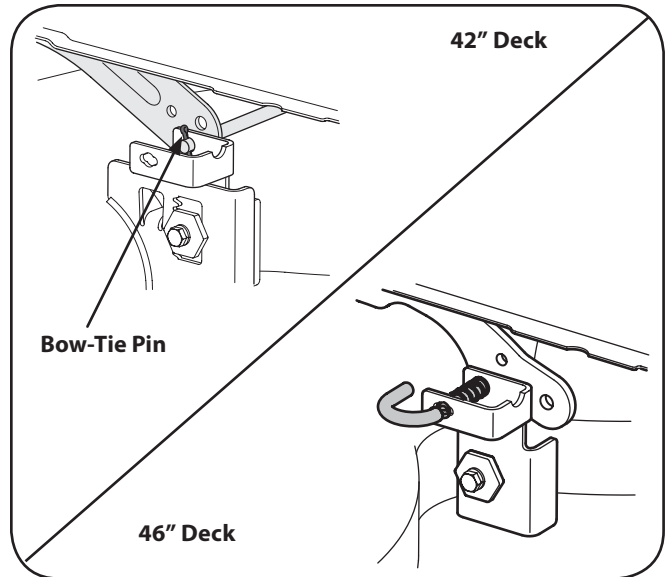

Figure 7-2
5. **On 42" Decks:** Looking at the cutting deck from the left side of the tractor, locate the bow-tie pin that secures the deck support rod on the rear left side of the deck. See upper half of Figure 7-2. Remove the bow-tie pin that secures the deck support rod, and carefully remove the deck support from the deck lift arm.
- On 46" Decks:** Looking at the cutting deck from the left side of the tractor, locate the deck release handle. See lower half of Figure 7-2. Pull the deck release handle and carefully release the deck from the deck lift arm.